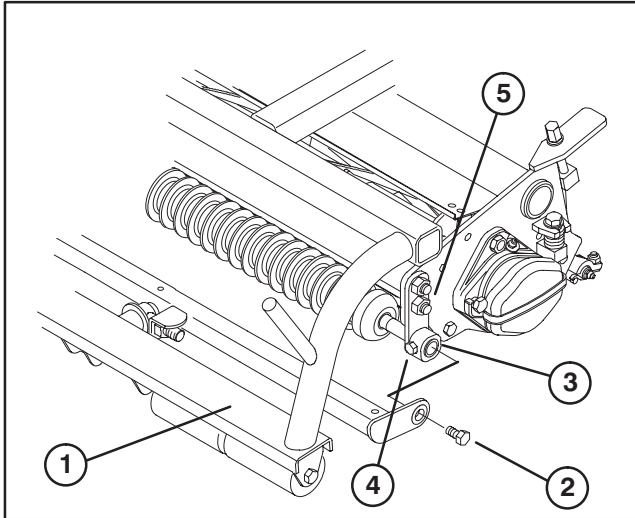

Figure 1
1. Remove (2) shoulder bolts securing traction unit pull frame to cutting unit (Fig. 1).
2. Loosen (2) capscrews securing ends of roller shaft to roller brackets (Fig. 1).
3. Remove (2) capscrews and locknuts securing left front roller bracket to side plate (Fig. 1).